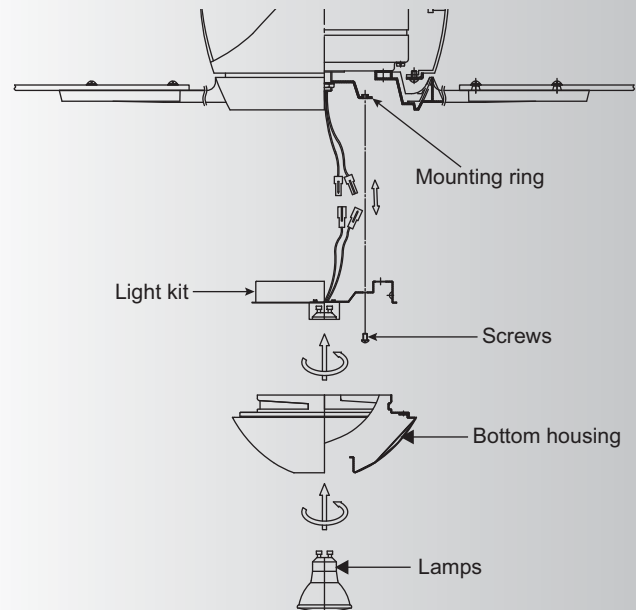

Fig. 18
Step 1. Loosen the two screws on the mounting ring attached to the motor shaft and "remove" and save the third screw. (Fig. 18)
Step 3. Raise the bottom housing against the light kit and turn clockwise until snug, **DO NOT OVERTIGHTEN**. (Fig. 18)
Step 4. Install the 50W GU10 intermediate base halogen bulb (provided). (Fig. 18)